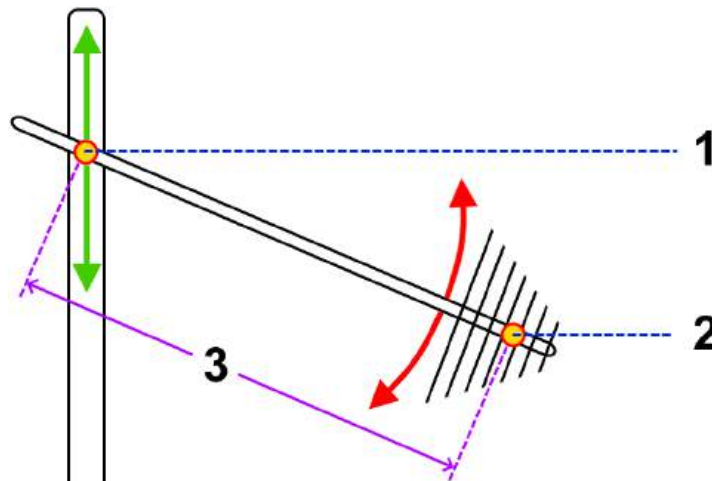

Figure 4-47: Reference points in an automated tilt-mast setup
Typical automated test systems use a motorized tilt mast as in Figure 4-47, for example in the optional substitution measurement step (see Flow Schema) in RSE tests. If your test system uses such an automated tilt mast, calculating the tilt angle at the controller and the free-space attenuation between EUT and antenna requires the following input information:
- *Measurement distance* from the EUT to the antenna reference point in Figure 4-47
- It is in the **mast** - see **1** in Figure 4-47
- It is in the **antenna** - see **2** in Figure 4-47